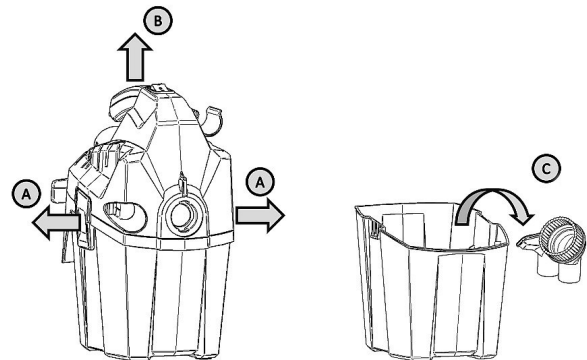

Fig. 5: Assembly of the suction cup
Step 1: Remove the packaging of the dry vacuum cleaner and check that there is no damage to the dry vacuum cleaner. Remove the scope of delivery (Fig.5, Pos.C) from the container by opening the latch (Fig.5, Pos.A) on the side of the upper part of the housing (Fig.5, Pos.B).